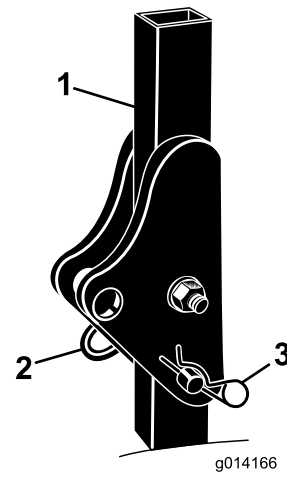

Figure 5
1. Remove the hairpin cottes and the pins from the roll bar (Figure 5).
2. Raise the roll bar to the upright position and install the 2 pins and secure them with the hairpin cottes (Figure 5).